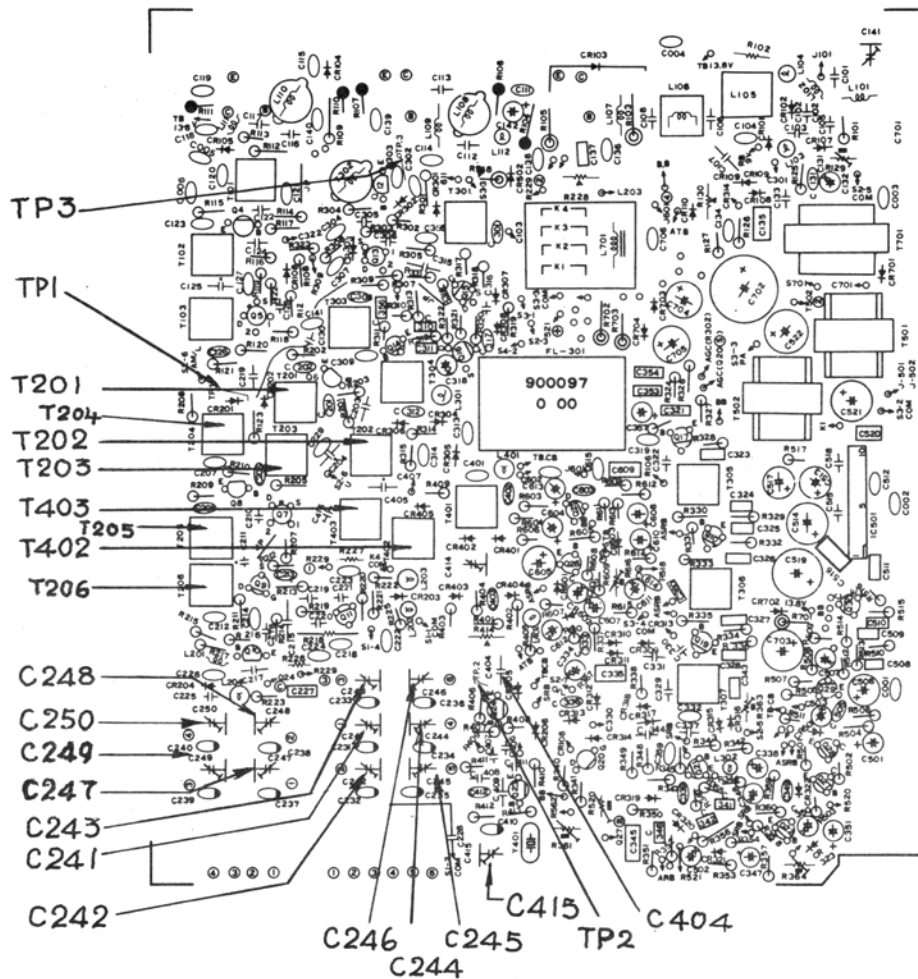

Figure 4-1 Oscillator and Synthesizer Adjustment Locations
2. Connect the frequency counter to TP-2 (see Figure 4-1).
5. Preset trimmer capacitors C241 through C250 (see Figure 4-1) to their approximate mid-positions.